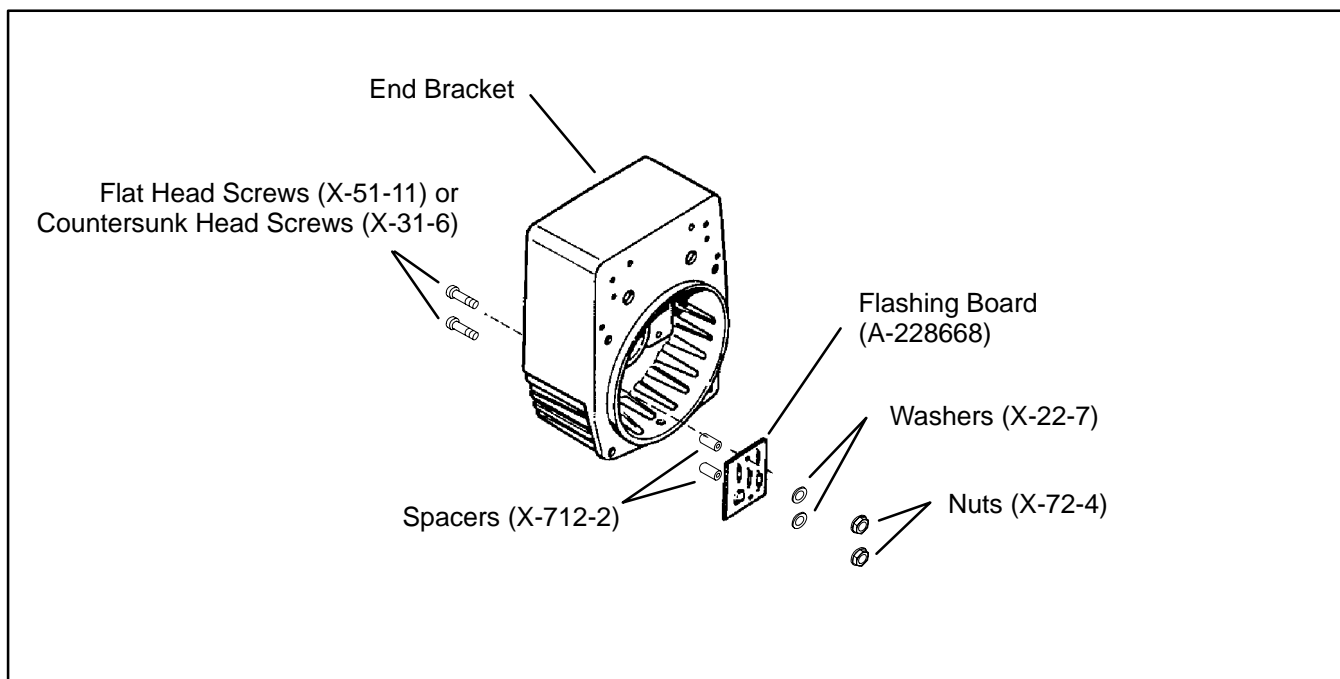

Figure 1. Flashing Board Location When Mounted In The End Bracket.
The Flashing Board Kit involves replacing the current flashing board (D-239244) on Kohler and Briggs-powered Portable generator sets with a new flashing board (A-228668). Observe the following safety warning and refer to Figures 1 and 2 when installing this kit.
10. Install the new flashing board (A-228668) in the same location in the end bracket as the old flashing board. Use hardware supplied in kit to secure. See Figure 1.